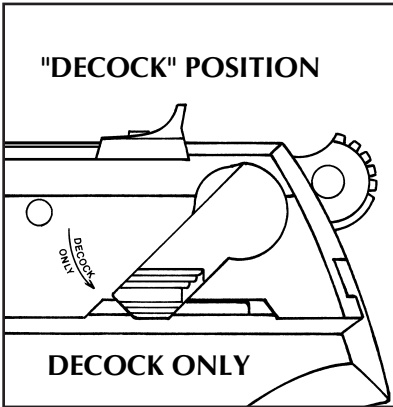

FIGURE 1
To decock the pistol, **point the pistol in a safe direction.** Depress the decocking lever until the hammer drops. The decocking lever first moves the firing pin into the slide far enough so that the rear end of the firing pin cannot be struck by the hammer. Only then will continued depression of the decocking lever safely drop the hammer to an uncocked position (see Figure 1, p. 7). To return the pistol to firing condition, simply release the decocking lever (see Figure 2, p. 7). It will spring upward to its original position. The pistol is then ready to fire by a “double-action” pull of the trigger. The hammer can also be manually cocked immediately before shooting a “single-action” firing. The trigger pull is both shorter and relatively lighter in the “single-action” mode, which is preferred for more accurate shooting.
1. The muzzle of the pistol must be pointing in a safe direction at all times, and fingers should be outside of the trigger guard. Decock the pistol by depressing the decocking lever until the hammer drops (See Figure 1, p. 7).